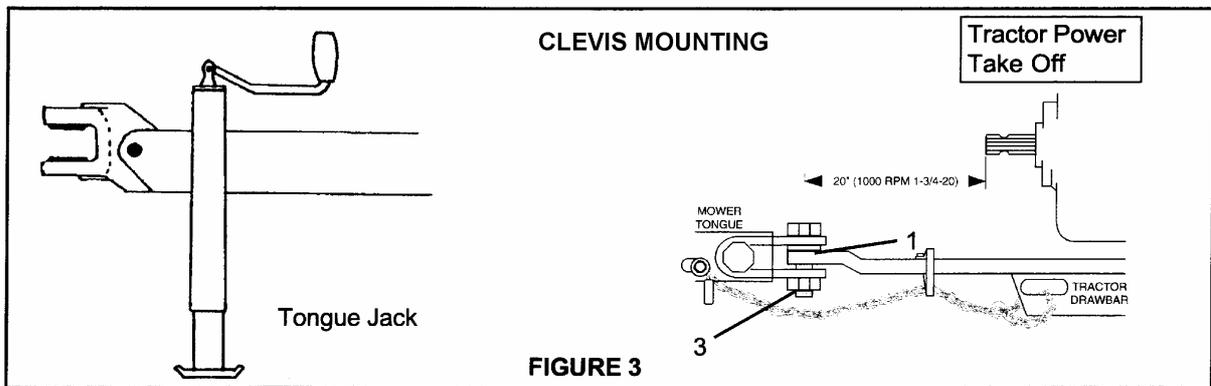

FIGURE 3
- a Adjust drawbar length according to type of hitch fitted - see Fig 3 or 6.
Place 25mm (1") hardened washer (1) under top lip of the clevis to act as wear plate on drawbar. Install a 25mm (1") grade 5 or 8 bolt 125mm (5") long. Install a locknut (3) onto the bolt beneath the clevis and tighten the 25mm (1") locknut and bolt securely – see fig 3.